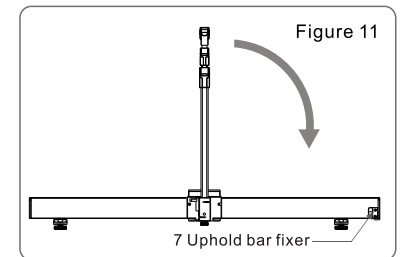

Figure 11
3. Fold down and lock uphold bar (8 ③) to its clip(7). Return the support foot to original position.(Figure 11)